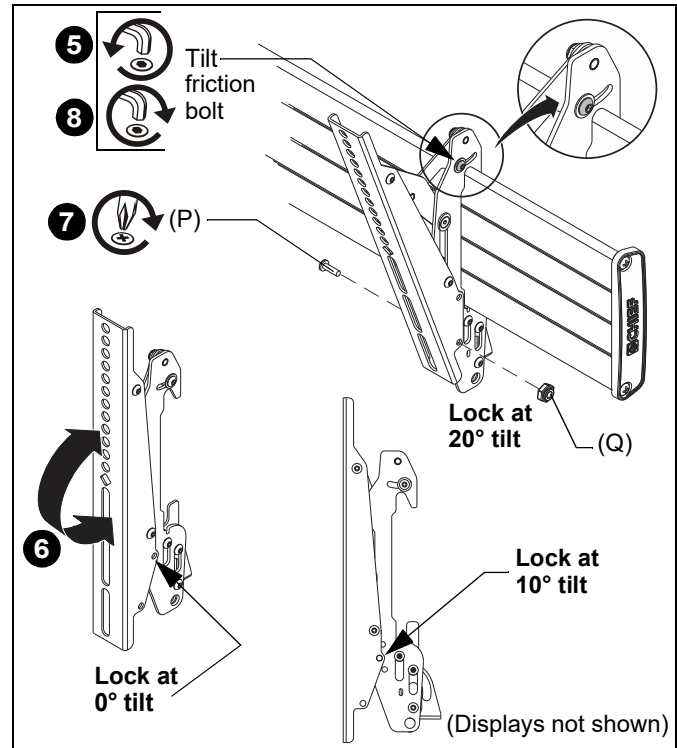

Figure 5
5. If necessary, loosen button head tilt friction bolt (located on side of interface bracket). (See Figure 5)
6. Adjust tilt as required. (See Figure 5)
7. The tilt may be locked at 0°, 10° and 20° using one 10-24 x 5/8" Phillips head screw (P) and one 10-24 lock nut (Q) per interface bracket. (See Figure 5)